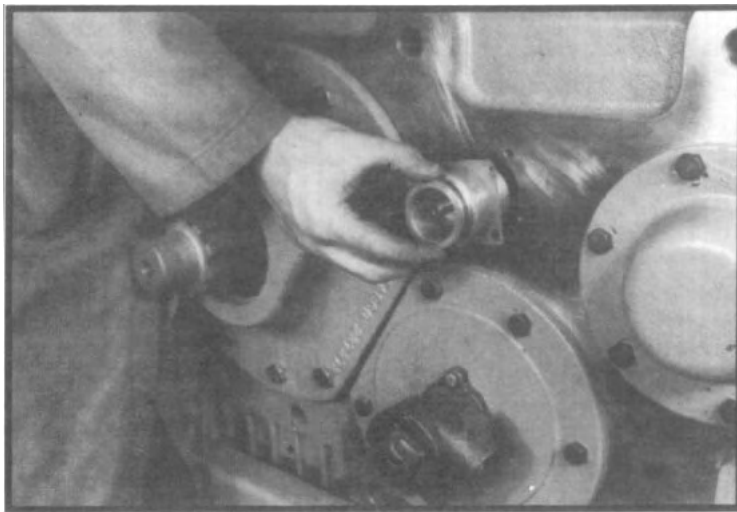

Fig. 192
4. Install o-ring in adapter tube and insert tube and gasket into housing over shaft. (See fig. 192.)